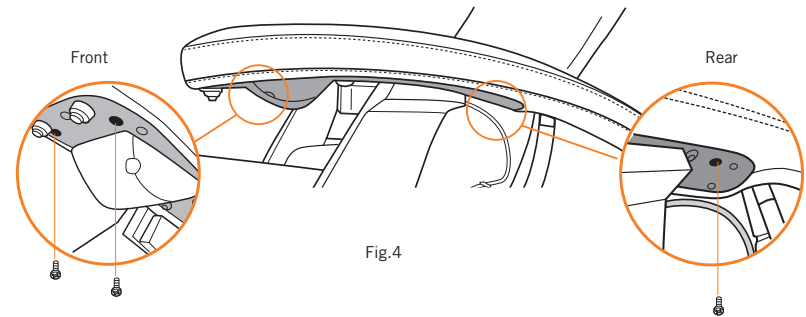

Fig.4
6. While pressing down on the armrest cap, secure it using the provided Phillips-head screwdriver and three screws (Fig.4).